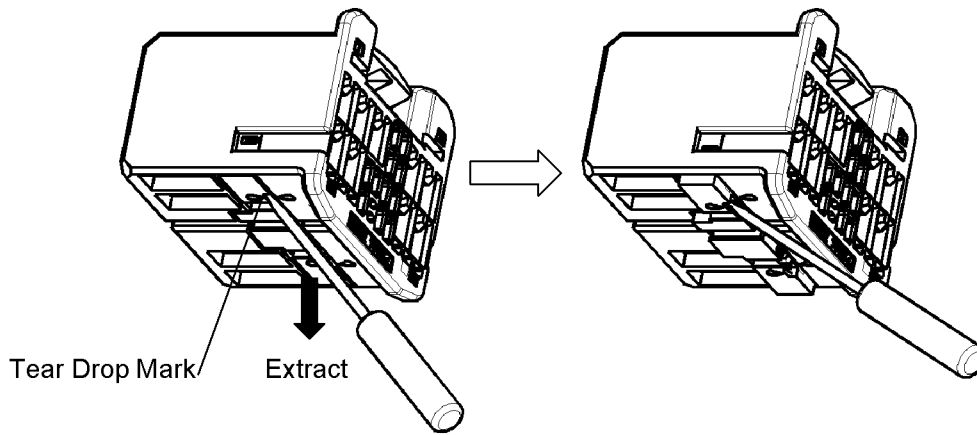

Fig.11
(1) Insert the jig, 1mm blade screwdriver, into the window of the retainer pointed by the tear drop mark. See Fig.11(next page).
(2) Draw out the retainer, about 1mm, to pre-assembled condition. Confirm that all of the projection is unlocked. See Fig.11(next page).